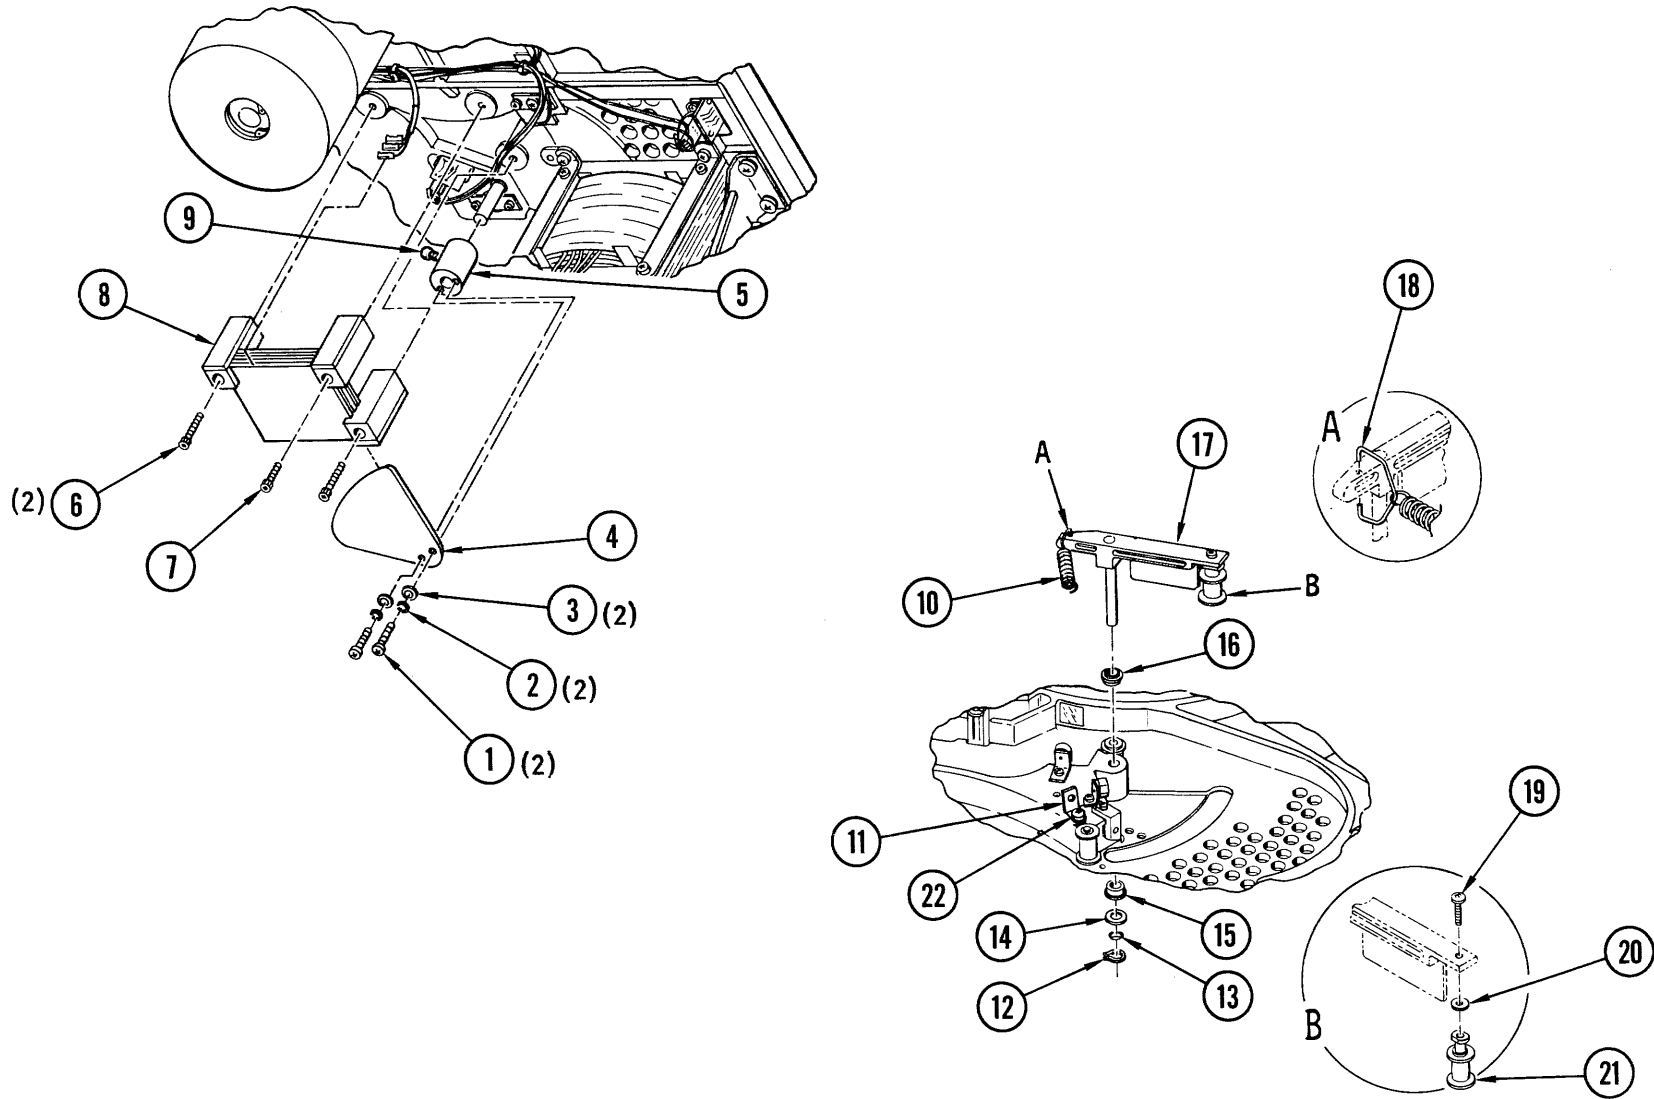

Figure 4-17. Compliance Arm and Air Capacitor Assemblies
4-30. **Removal and Disassembly (Figure 4-17).** Place the transport in service access position (paragraph 4-3). Proceed as follows:
- a. Replace defective parts and reassemble compliance arm assembly as shown in Figure 4-17, in reverse order of steps g through i, paragraph 4-30, observing the following special instructions.
- (1) Use attaching parts and shims saved from removal and disassembly as necessary.
- (2) Apply Lubriplate to bearing surfaces between clip (18) and arm (17).
- b. If bearing (15) or (16) was removed, apply small amount of Loctite 601 around outside of bearing and replace.
- d. Install shim (14), wavespring washer (13), and retaining ring (12) on bottom of shaft. Check wavespring washer (13) to see that it is compressed half of its height. If not, add shims (14) as necessary, checking compliance arm for freedom of movement.
- e. Slip hub (5) of capacitor shutter over end of compliance arm shaft, tightening socket head screw (9) just enough to hold hub on shaft.
- f. Mount air capacitor stator (8) to under side of top plate with one screw (1/2 - inch) (7), and two screws (5/8-inch) (6), applying Loctite 242 to screws before insertion.
- g. Slip blade (4) of capacitor shutter between two upper plates of capacitor stator (8), and attach to hub (loosen hub if required) with two screws (1), lockwashers (2), and flatwashers (3).
- i. Loosen hub socket head screw (9) slightly, rotate capacitor shutter blade (4) to within 0.1 inch of power supply housing, and adjust height of hub so that rotor blade does not bind on either plate of capacitor stator (8).